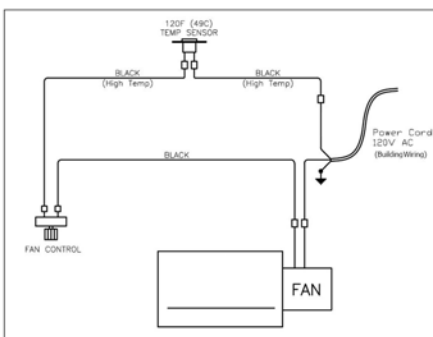

Figure 6: Fan Wiring
6. Mount the temperature sensor in the retainer already mounted to the bottom of the firebox. Continue to wire the circuit as shown in Figure 6. Double check to be sure all wiring is correct then install the electrical box cover that came with the appliance. Replace all components and flip the circuit break to the on position.